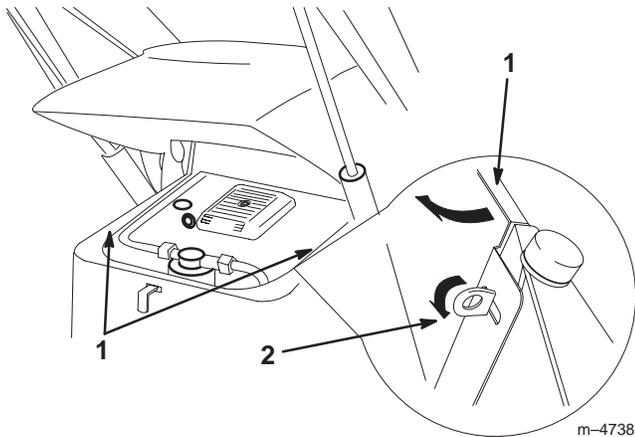

Figure 19
2. Pull out and turn the two locking tabs on the inside of the side screen until they line up with the slots in the screen (Fig. 19).
3. Slide the slots in the screen over the locking tabs (Fig. 19).
4. Turn the tabs and fold them down to lock the screen in place (Fig. 19).